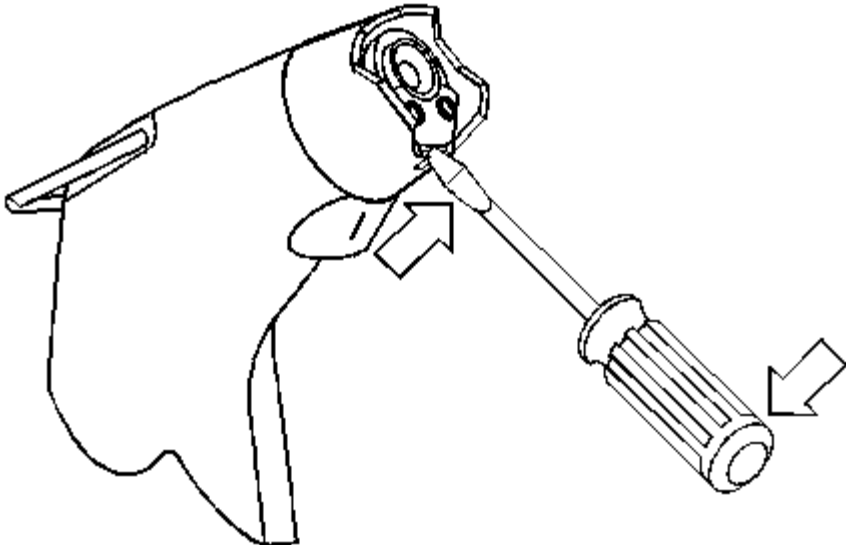

Figure 4. Replacing the Emitter Points
2. Insert the tip of a screwdriver into the slot on the underside of the gun barrel. See **Figure 4. Replacing the Emitter Points.**